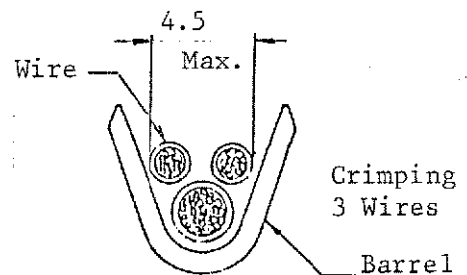

Fig. 7
3. When crimping 3 wires, the wires shall be placed as shown in Fig. 7. A maximum range of insulation diameter is also shown in Fig. 7. If 2 of the 3 wires have a same insulation diameter, place them side by side. In case the 3 wires are of different size, the smaller two shall be placed side by side.